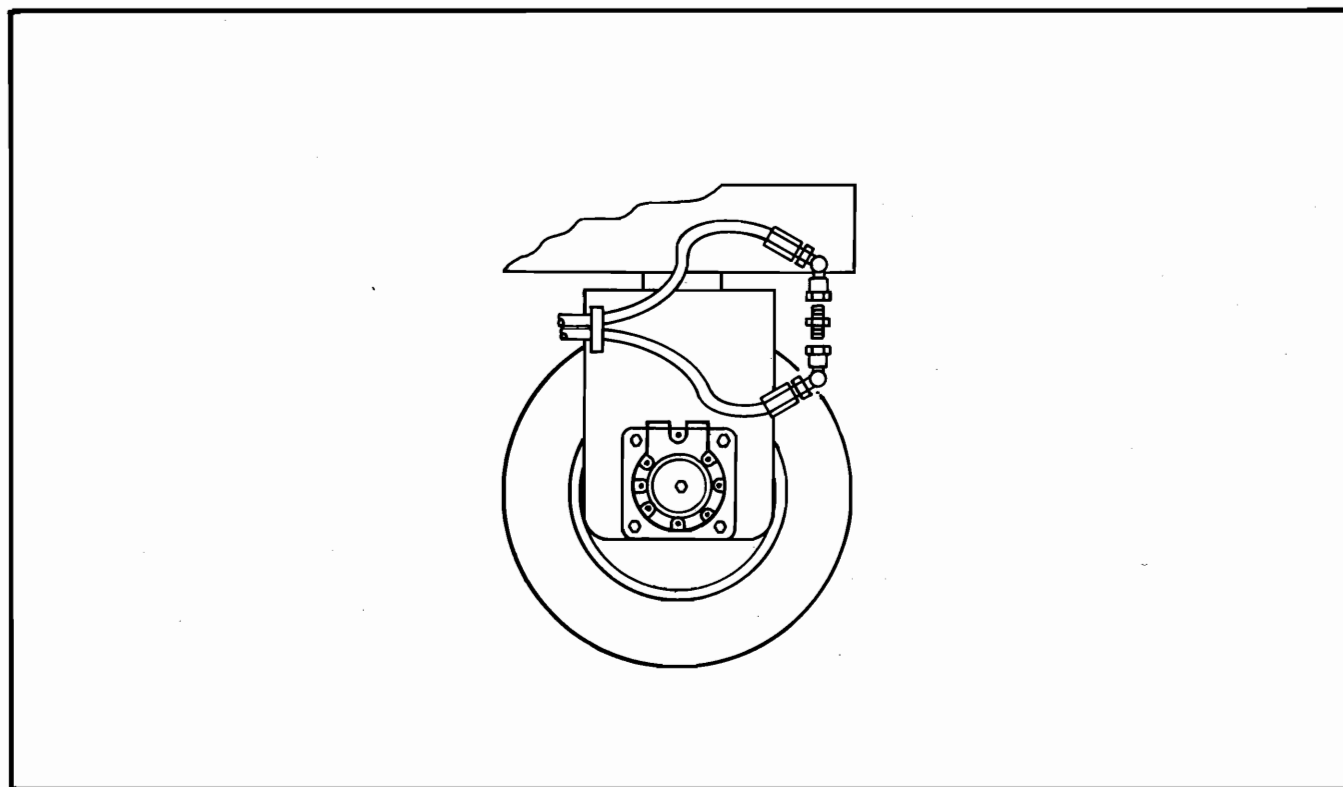

Figure 5-6. Counterbalance Valve
(2) Disconnect the two hydraulic hoses to each drive motor and connect them together thus, by-passing the drive motors (Figure 5-6).